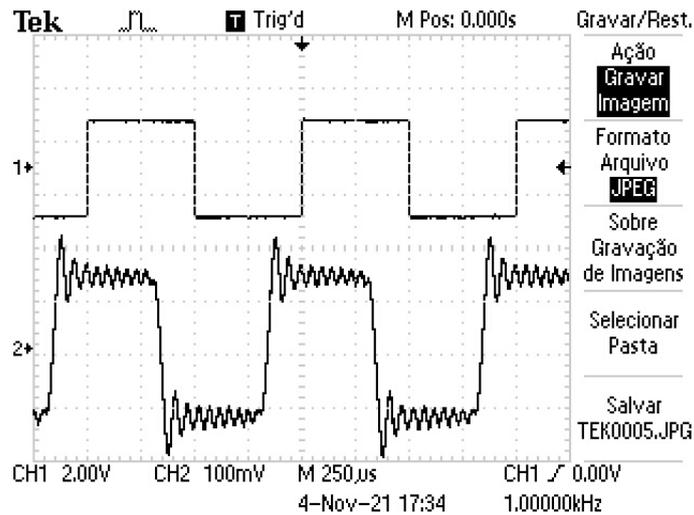

Figure 3: Oscilloscope view of the function generator square wave and analog output of the STM32F746G.
Use the gray mini-jack to connect the analog output of the STM32F746G board to CHAN 2 of the oscilloscope. You should see a figure similar to Figure 3.
**Question 5:** considering the system setting enforced by the `stm32f7_loop_intr.c` code, and recalling the above Matlab experiment, what type of filter does the STM32F746G board operation correspond to ? By looking at the ripples of the STM32F746G output wave as in Figure 3, what can you say about the filter characteristics that generate those non-symmetric ripples ?